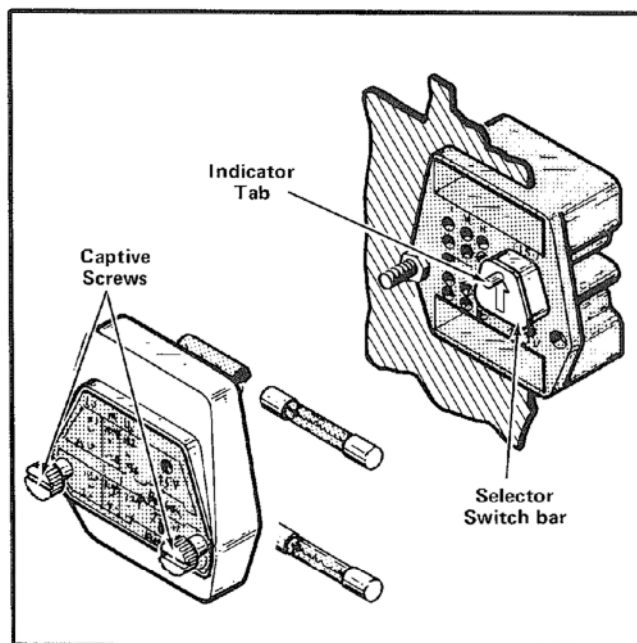

Fig. 1-1. Line Selector assembly on rear panel (shown with cover and fuses removed).
3. To convert from 115-volt to 230-volt nominal line voltage, or vice versa, pull out the Selector switch bar (see Fig. 1-1) and plug it back into the remaining hole. Change the line-cord power plug to match the power-source receptacle, or use a 115- to 230-volt adapter.